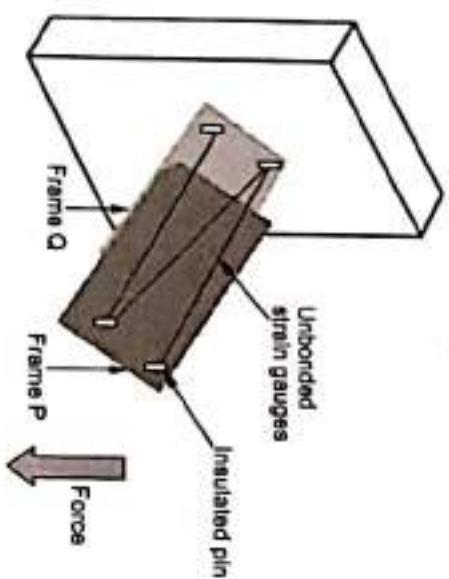

Fig. Q.43.1. Structure of unbonded strain gauge
**Ans. :** • The basic structure of unbonded strain gauge is shown in Fig. Q.43.1.